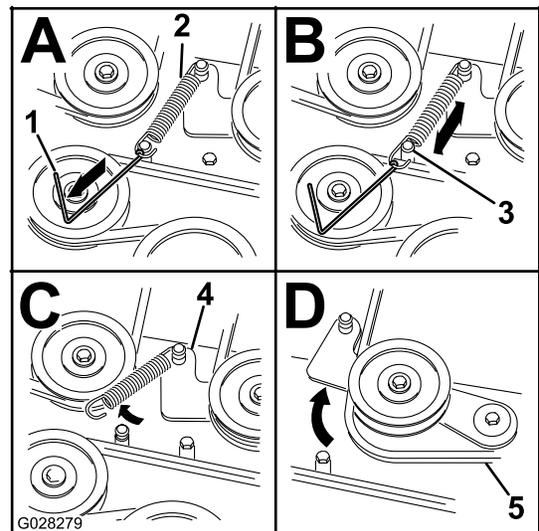

Figure 75
5. Remove the spring tension from the spring-loaded idler pulley; refer to Figure 75.
Note: Use the spring removal tool (Toro Part No. 92-5771) to remove the spring from the mower-deck post (Figure 75).